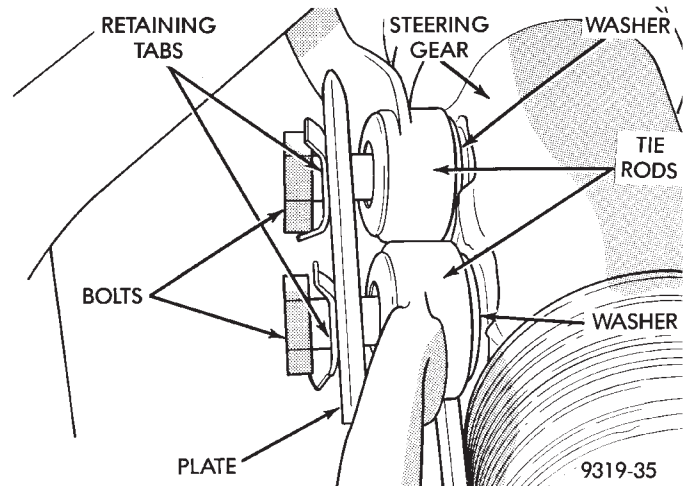

Fig. 25 Tie Rod Attachment To Steering Gear
(16) Align center take off on steering gear with the tie rod assemblies. Install tie rod attaching bolts and washers into steering gear assembly. **Be sure washers are installed between tie rods and steering gear (Fig. 25). Tighten the tie rod to steering gear bolts to a torque of 82 N·m (60 ft. lbs.).**